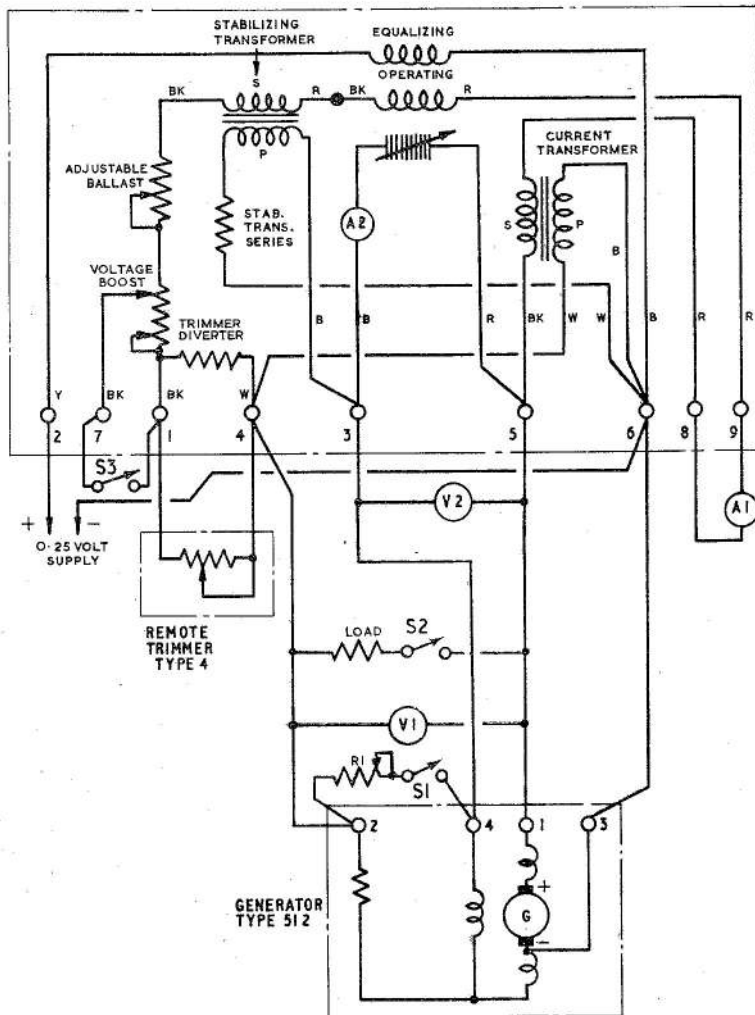

Fig. 1. Test circuit diagram
3. Connect the regulator Type 114 to the test circuit as shown in fig. 1. This circuit shows the regulator connected to a generator of the Type 512 series, a generator of the Type 519 series would also be suitable; the use of either type ensures that the stability characteristics of the regulator are checked. Switch S1 and S2 should be open; switch S3 should be closed for all tests except the voltage boost test (para. 7).